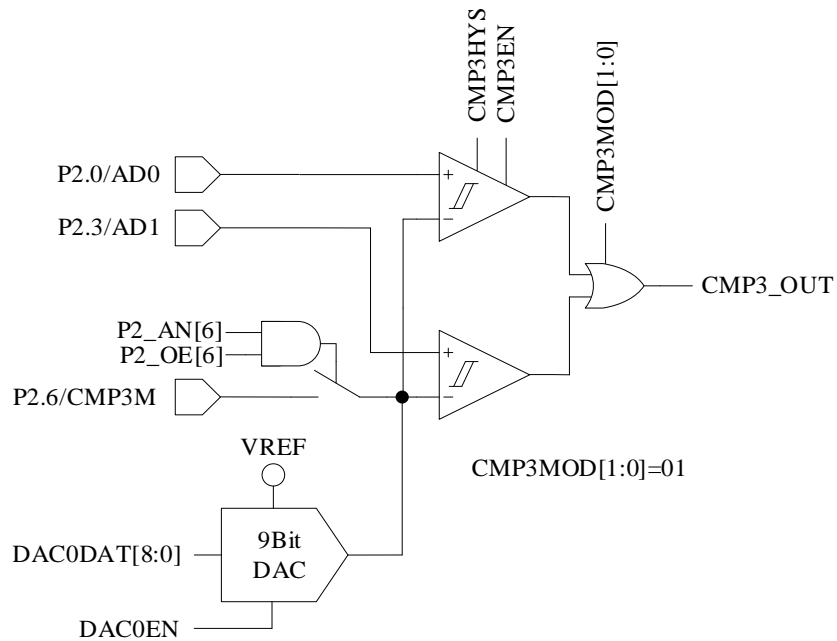

Figure 29-3 Dual-comparator Input Mode (CMP\_CR1[CMP3MOD] = 01)
- When CMP\_CR1[CMP3MOD] = 01, CMP3 works in dual-comparator input mode. The connection of input and output pins are shown in Figure 29-3.